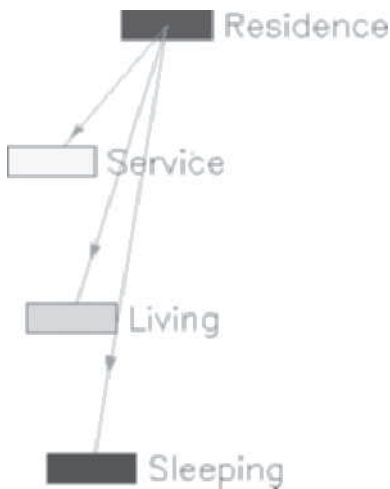

FIGURE 4.41 Zones of the Residence
15. Choose **Zone** in the workspace. Edit the **Name** property to **Residence** in the Properties palette. Retain the selection of the Zone, choose the “+” grip, and select the **Sleeping, Service, and Living** zones as shown in Figure 4.41. Press **ENTER** and then **ESC** to end the selection.